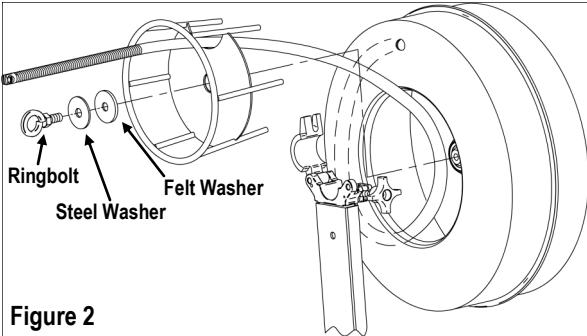

Figure 2
2. Slide the drum and inner drum cage onto the drum shaft. (See Figure 2.)